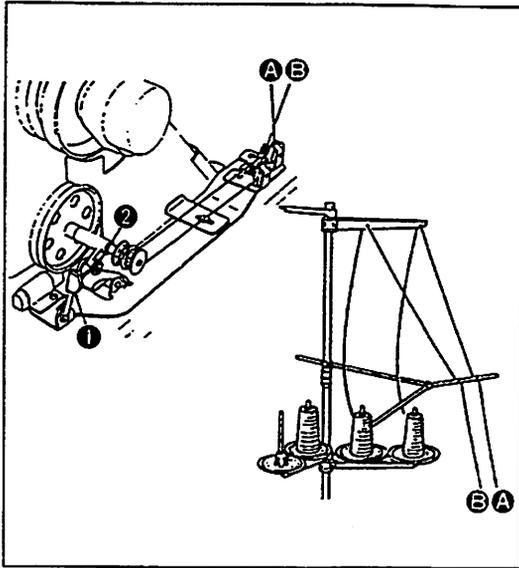

Fig. 80
2. Thread the winder in the order as illustrated in Fig. 80 and wind the thread on to each bobbin four or five turns.
3. Press winder thread guide ① .
It is recommendable to wind the bobbin about 80% of its full capacity with the cotton thread or 60 to 70% with the synthetic thread. This can be adjusted by tightening screw ② (Fig. 80) to increase or loosening to reduce the amount of thread to be wound.